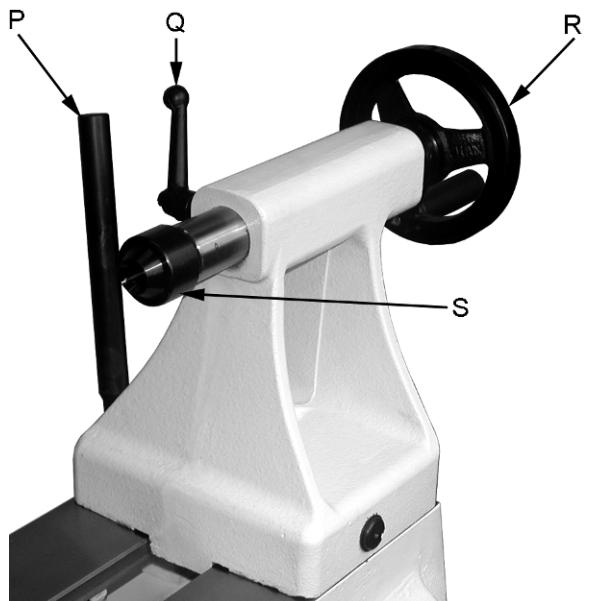

Figure 9
P. **Tailstock Lock Handle:** (P, Fig. 9)
Q. **Tailstock Quill Lock Handle:** (Q, Fig. 9)
R. **Tailstock Quill Handwheel:** (R, Fig. 9)
S. **Tailstock Live Center:** (S, Fig. 9)